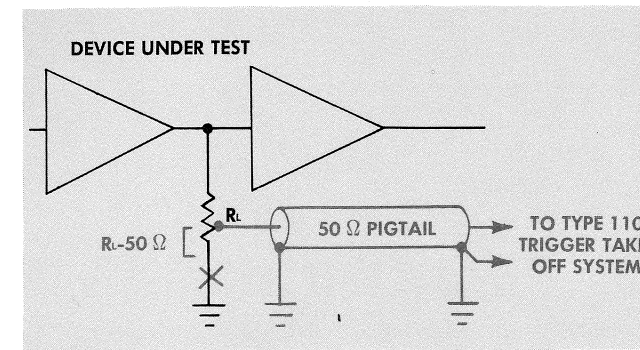

Fig. 3-2. Series method of tapping off signal for application to the Type 110 Trigger Takeoff System.
1. The series method shown in Fig. 3-2 is basically as follows: Remove 50 ohms of any of the total resistance to ground across which the signal is being developed and connect a 50-ohm pigtail in its place. In actual practice, it may be possible, depending upon the value of R_L , to connect the pigtail between the lower end of R_L and ground without causing excessive change in loading.